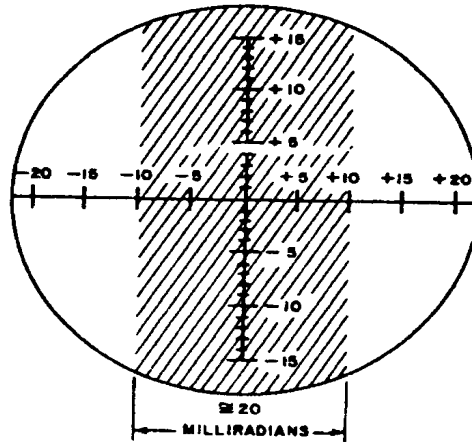

Figure 3. Vertical filament image.
- e.** Adjust the gimbal mounts control on the alignment test stand until the filament image is centered on the vertical axis of the reticle, figure 3.